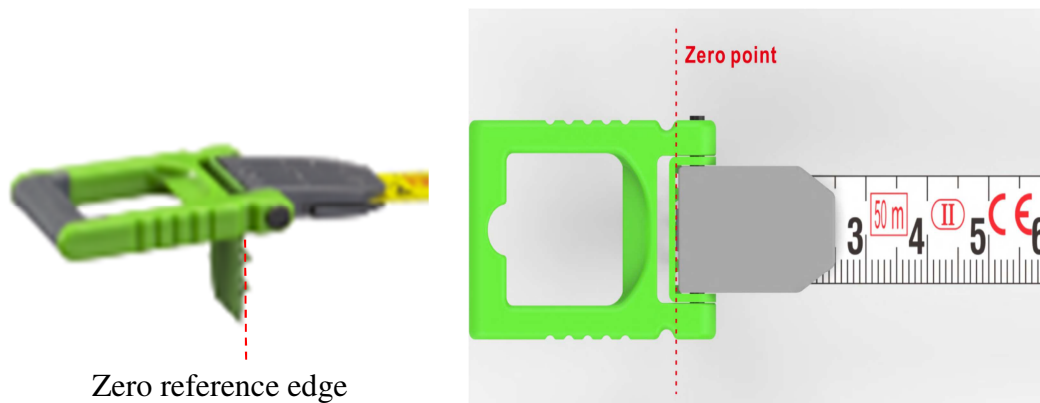

Figure 5 - zero reference edge example for folding steel claw
7.3.1 The front face of the long steel blade is graduated every half-centimetre along the top edge and in millimetre intervals along the bottom edge of the blade. The graduations are in black with every 10 centimetres being numbered in black, and every metre numbered in red. The centimetre intervals on the lower edge are numbered consecutively from 1 to 99, and this is repeated every 100 centimetres. The blade has a yellow or white background which is protected by a clear film. The blade is terminated by a riveted reinforcing strip approximately 20 mm long. A folding steel claw may be fitted to the reinforcing strip. The zero reference edge for any measurement using this blade is the inside face of the folding steel claw (Figure 5). A metal or plastic ring, which is not included in the nominal length, is attached to the blade by means of a steel hinge pin.
7.4.1 The front face of the long fibreglass blade is graduated every 2-millimetre intervals along the top edge. The graduations are marked in black with every 10 centimetres being numbered in black, and every metre numbered in red. The centimetre intervals are numbered consecutively from 1 to 9, and this is repeated every 10 centimetres. The blade has a yellow or white background which is protected by a clear film. The blade is terminated by a riveted reinforcing strip approximately 20 mm long. A folding steel claw may be fitted to the reinforcing strip. The zero reference edge for any measurement using this blade is the inside face of the folding steel claw (Figure 5). A metal or plastic ring, which is not included in the nominal length, is attached to the blade by means of a steel hinge pin.
- Figure 5 zero reference edge example for folding steel claw